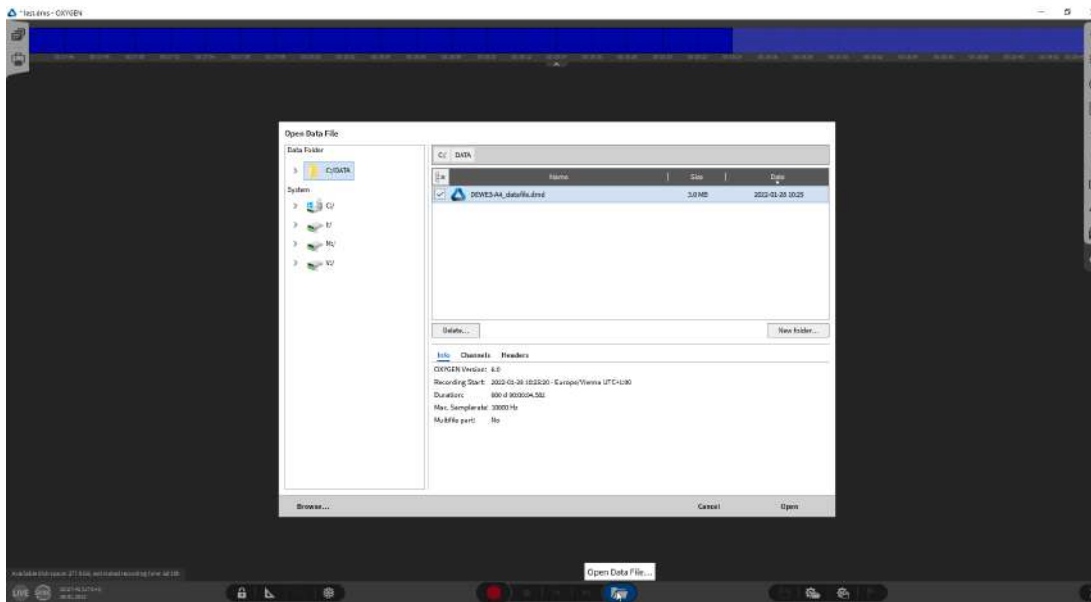

Fig. 19: Opening data file
1. Click on the file button, and select the corresponding file (see *Fig. 19*).